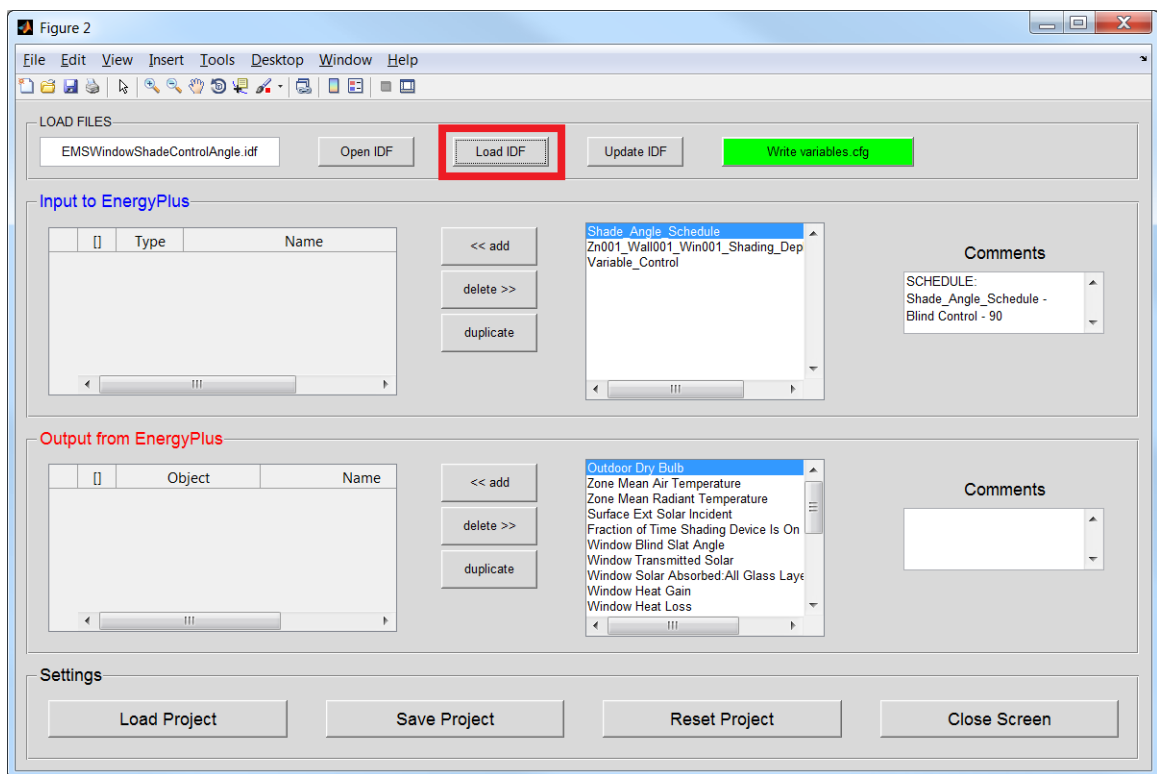

Figure 6: Variable configuration window.
2. In the Control Tab, push the **Variable** button to open the Variable Configuration Window (Figure 6).